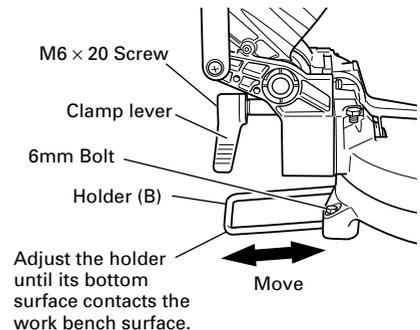

Fig. 5
3. Holder (B), clamp lever adjustment: (Fig. 5)
Attach the included holder (B) in the position as shown in Fig. 5 and adjust the holder (B) until its bottom surface contacts the work bench surface. After adjustments, securely tighten the 6mm bolt with the included 10mm box wrench. Loosen the M6 × 20 screw on the clamp lever and attach to a position where the clamp lever can be easily operated.